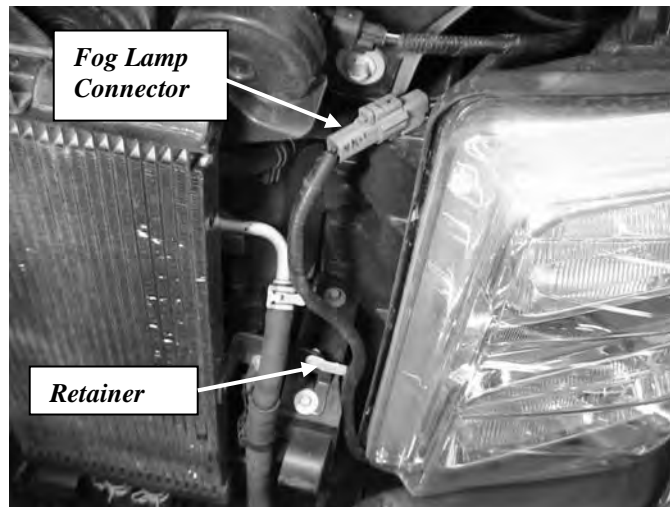

Figure 1 Fog Lamp Disconnect
1. Disconnect the fog lamps if equipped. The plug is inboard of the driver side headlamp with an additional retainer below. **See Figure 1**